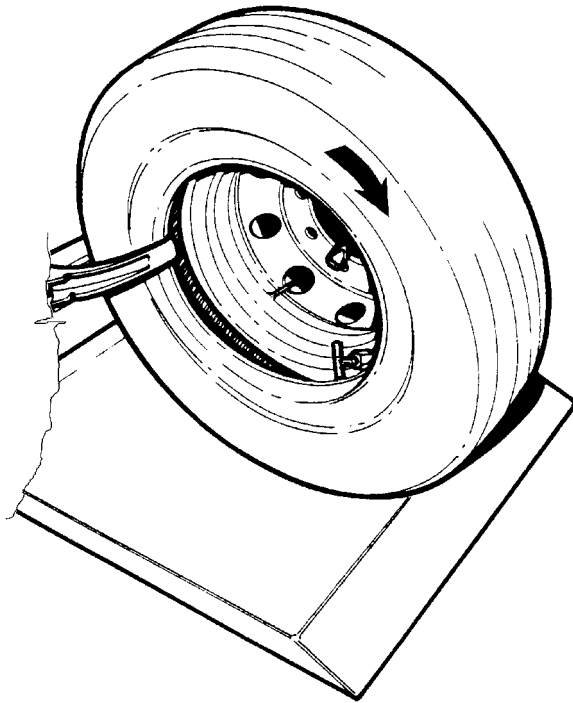

Fig.34
3. Rotate the chuck clockwise. Normally less than 1/4 of a revolution is sufficient to mount the first bead (fig.34).